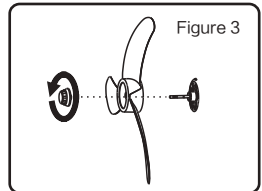

Figure 3
3.Install the blades (as shown in Figure 3)